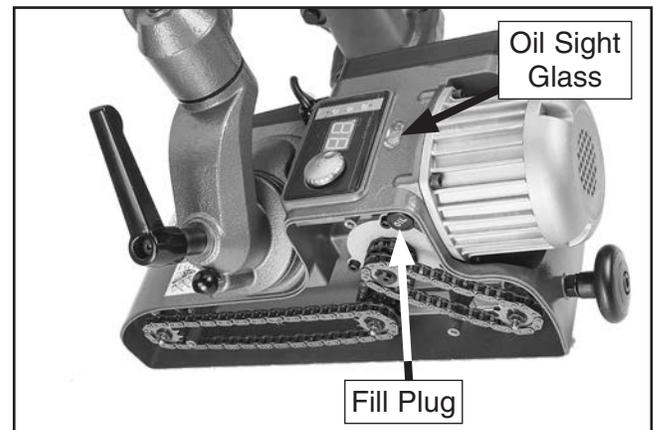

Figure 36. Location of gearbox fill plug/oil drain and sight glass.
3. Rotate power feeder upside down so chains face down (see **Figure 36**).
4. Place drain pan under fill plug labeled "OIL," then remove fill plug (see **Figure 36**) and drain oil.